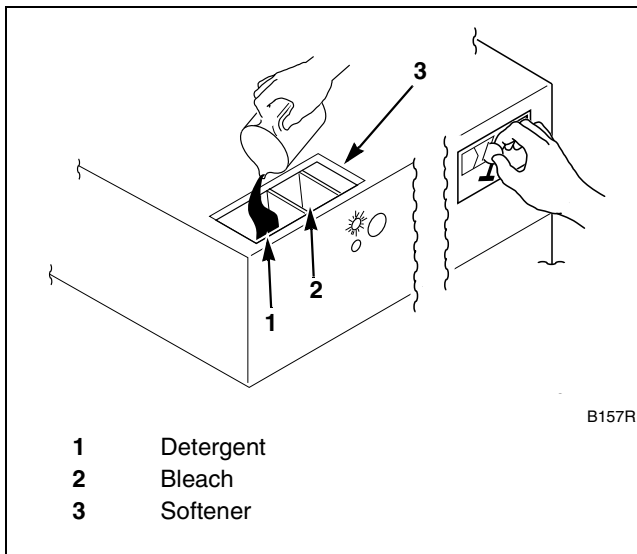

Figure 28
5. Add liquid and/or powder supplies to supply dispenser. Refer to *Figure 28*.
7. **For coin models:** Insert required number of coins to start machine. Refer to *Figure 28*.